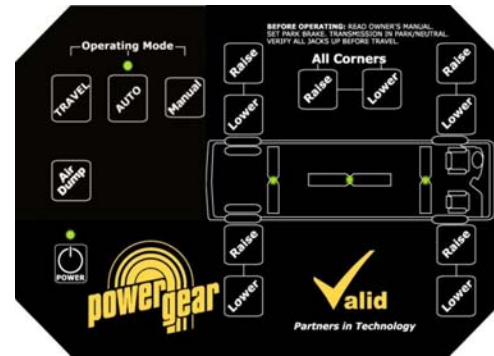

Fig 2
3. After the three cycles are complete, the vehicle should be level and all three level displays should be indicating green (Fig 2).